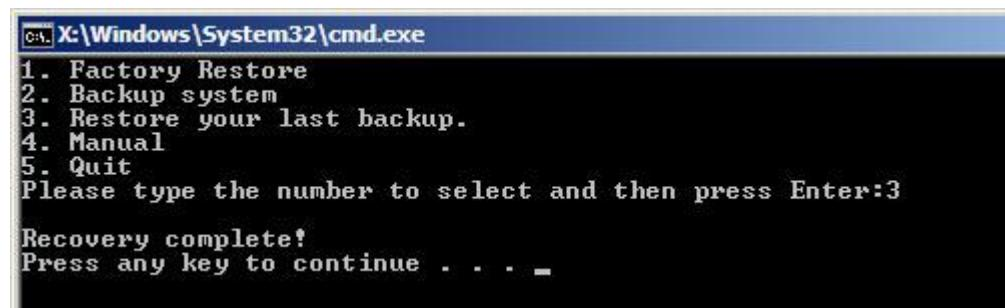

Figure B-32: Restore System Backup Complete Window
**Step 3:** The screen is shown as in **Figure B-32** when backup recovery is completed.